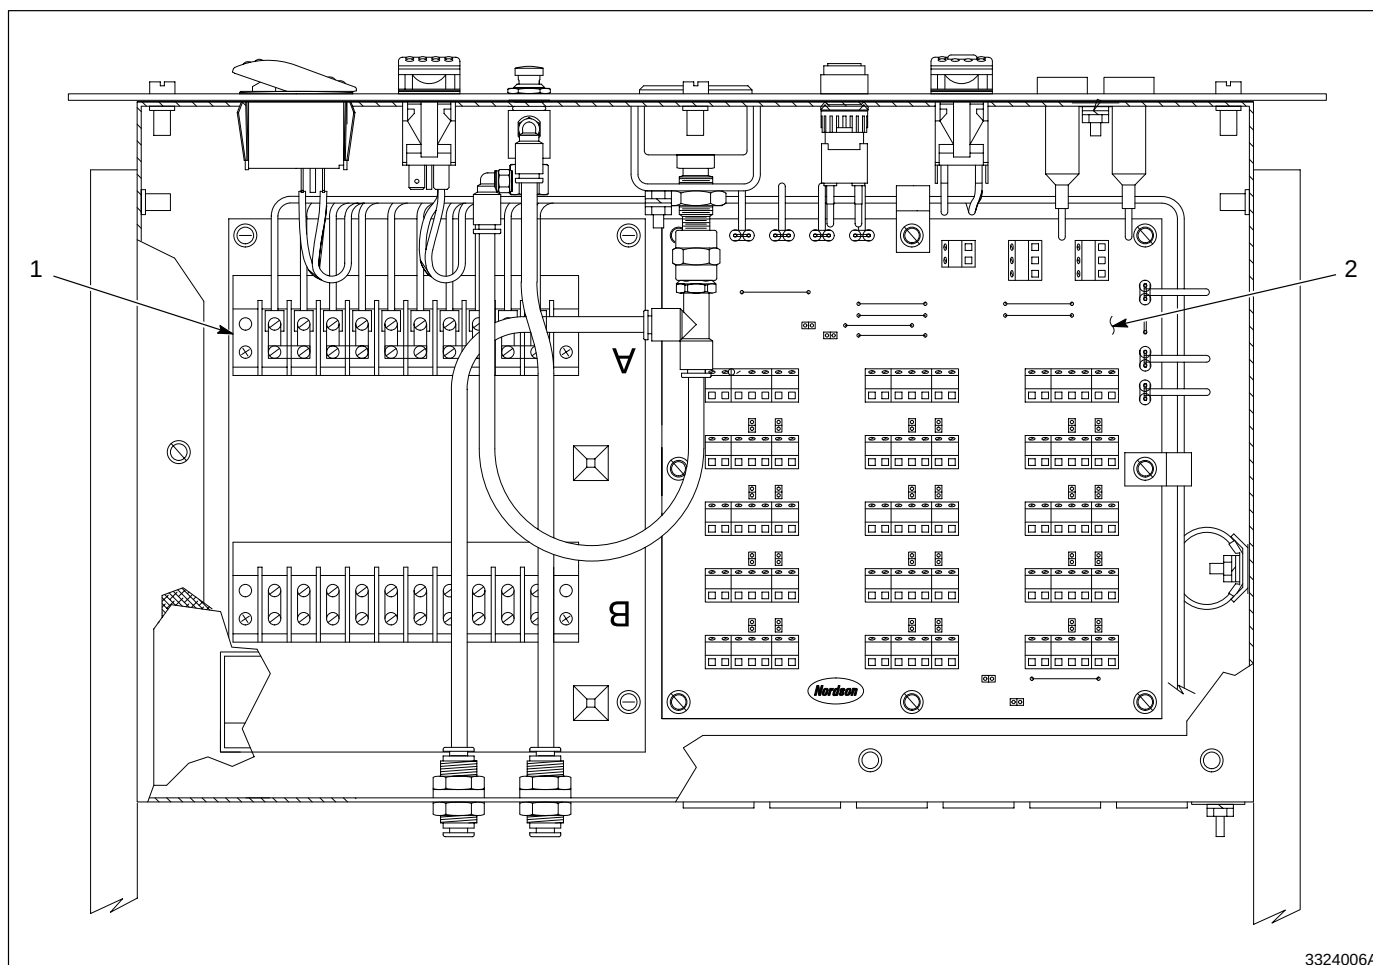

Fig. 2-4 Internal Components
See Figure 2-4. The distribution board (2) has contact blocks for controller power, input power, auxiliary power, and conveyor interlock.
See Figure 2-4. Terminal blocks are mounted on the sub-plate (1).